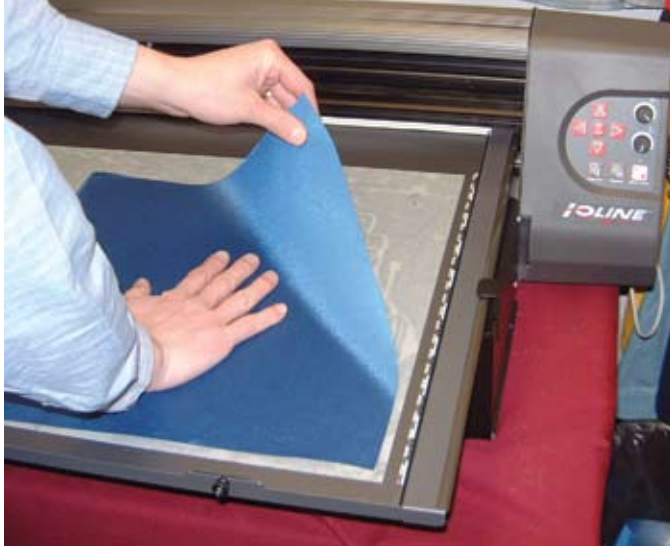

Figure 10. Apply the material on top of the Adhesive Sheet on the **Tray**.
1. Remove the cover from the **Adhesive Sheet** and carefully apply fabric to the **Tray**. Smooth all bubbles out of the material. (See **Figure 10**.)